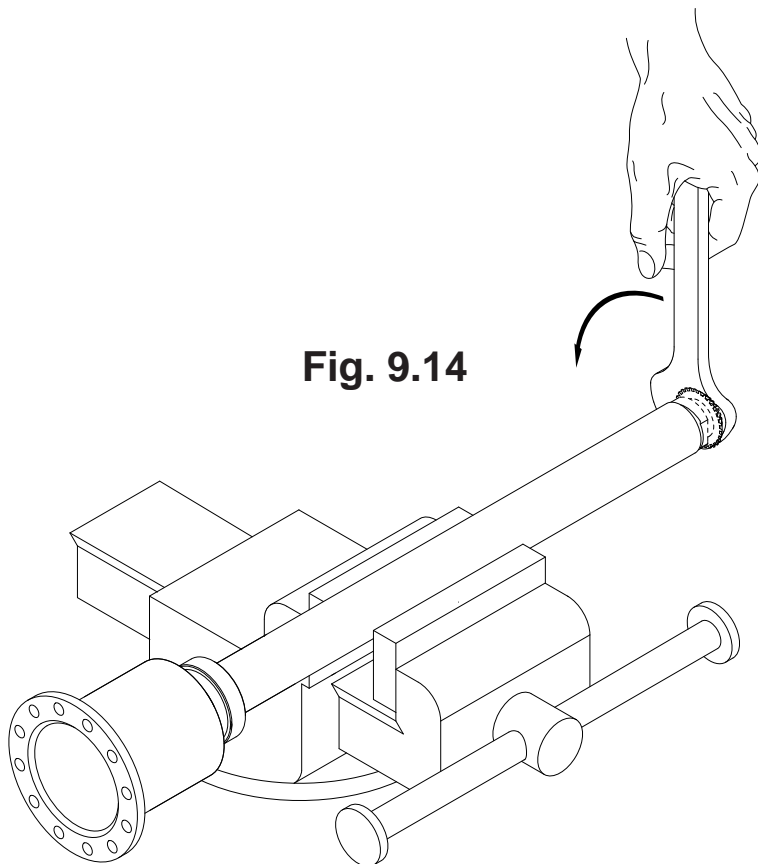

Fig. 9.14
9.4.6) Using the special tool, remove the ring and o-ring pos.72 from the pinion pos.73 (fig.9.14).